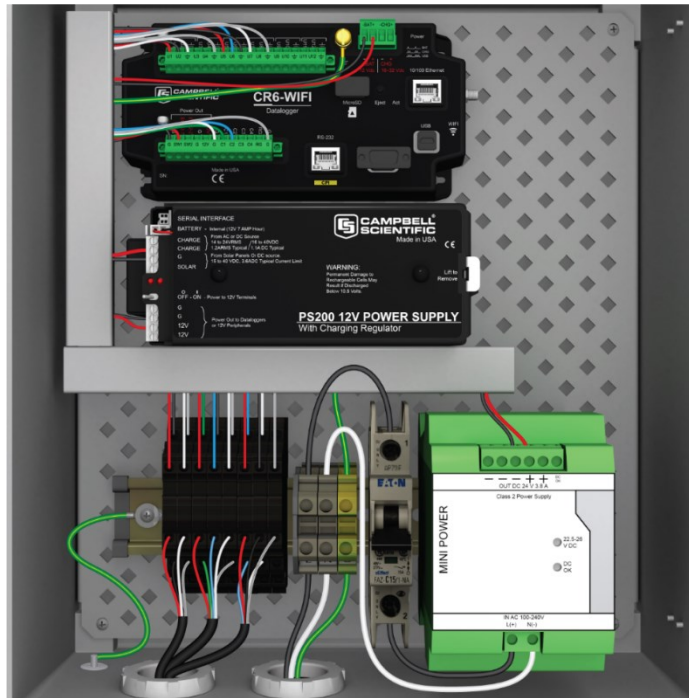

FIGURE 6-10. Attaching external wiring
9. Attach any wires coming from outside the enclosure to the DIN-rail components (FIGURE 6-10 (p. 15)). Do not attach any voltage sources, such as AC power or a solar panel, until all other terminal connections have been made and verified.